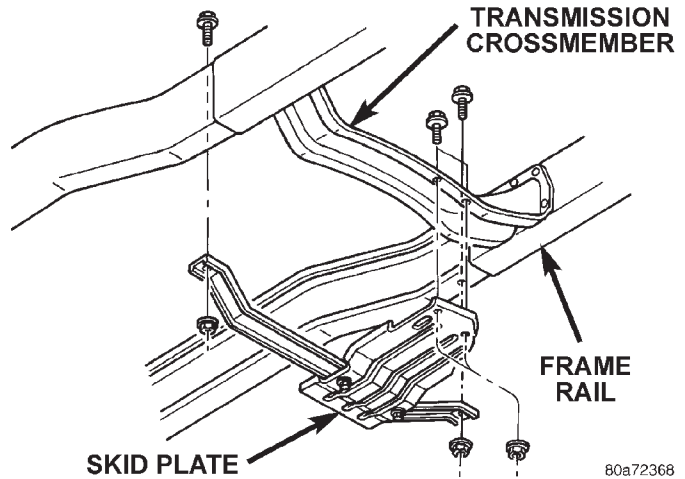

Fig. 5 Skid Plate
- (1) Hoist and support vehicle on safety stands.
- (2) Remove bolts holding skid plate to frame rails (Fig. 5).
- (3) Separate skid plate from vehicle.